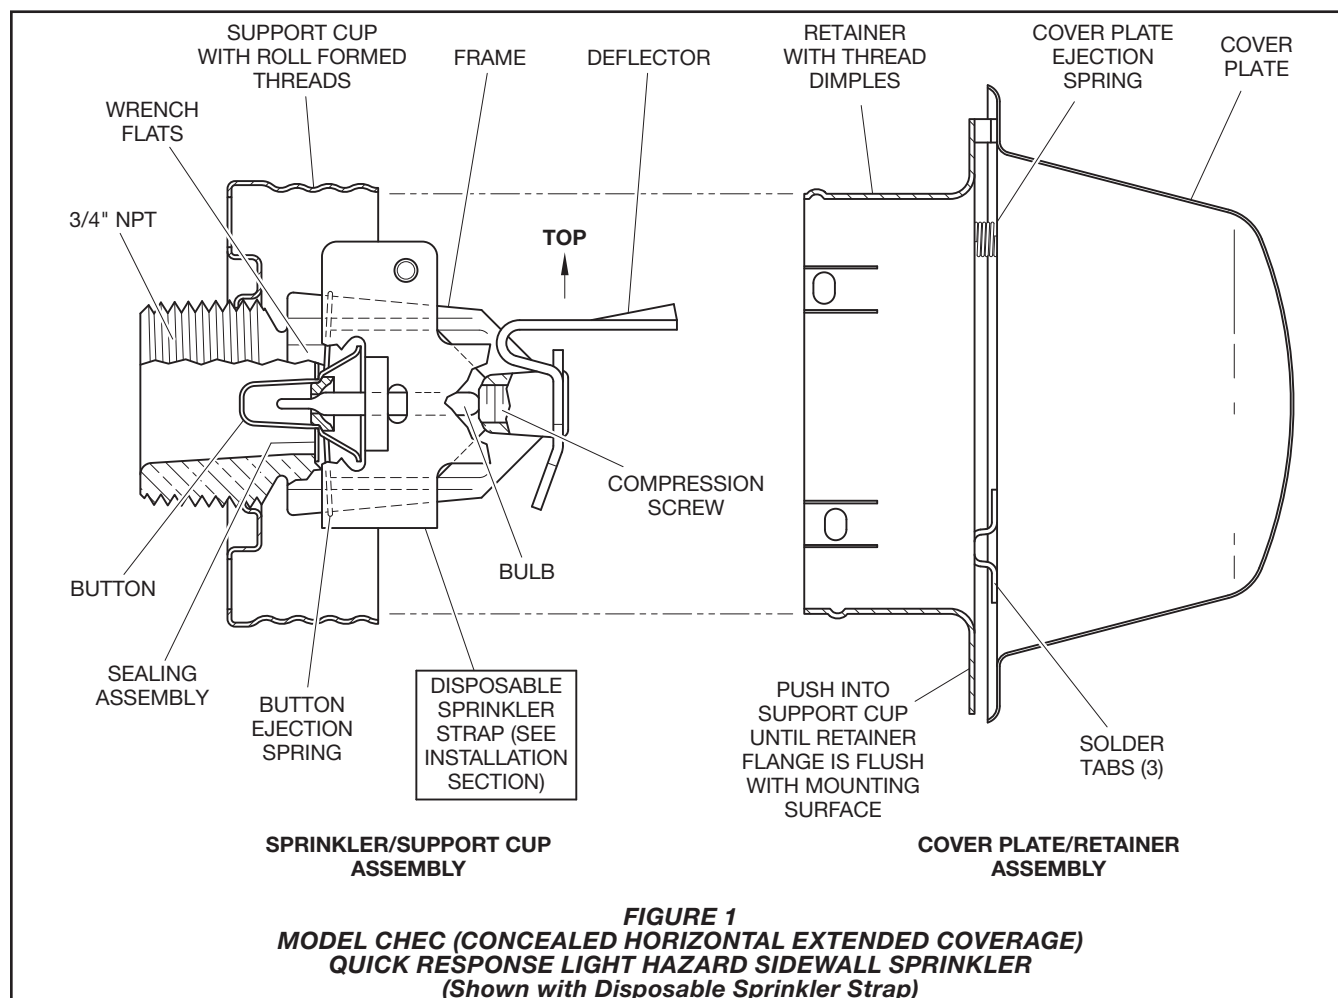
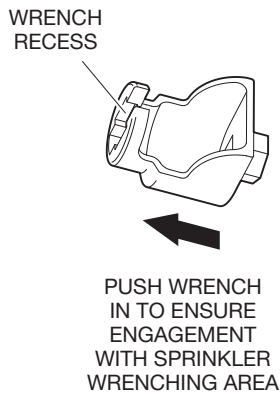
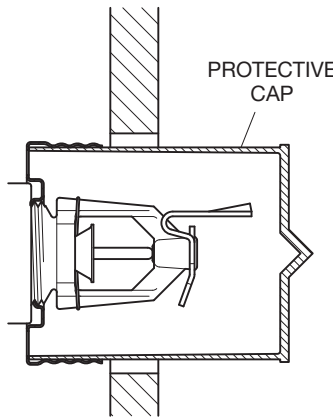

FIGURE 1
FIGURE 3
FIGURE 4
Do not remove the Sprinkler Strap (Figure 1) until the sprinkler system is to be placed in service.
Step 4. Wrench tighten the sprinkler using only the W-Type 7 Wrench (Ref. Figure 3). The wrench recess of the W-Type 7 Wrench is to be applied to the Sprinkler Wrench Flats shown in Figures 1 and 2.
Step 5. Replace the Protective Cap (Ref. Figure 4) by pushing it inwards until it bottoms out against the Support Cup. The Protective Cap helps prevent damage to the Sprinkler to help protect the sprinkler while the wall is being plastered, wallpapered, or painted.
As long as the Sprinkler Strap (Figure 1) or the Protective Cap (Figure 4) remains in place, the system is considered to be "Out of Service".